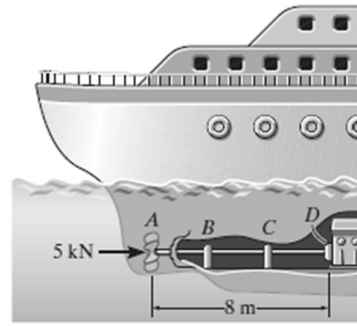

Fig. 6
6. The ship is pushed through the water using an steel propeller shaft that is 8 m long, measured from the propeller to the thrust bearing  $D$  at the engine. If it has an outer diameter of 400 mm and a wall thickness of 50 mm, determine the amount of axial contraction of the shaft when the propeller exerts a force on the shaft of 5 kN. [Fig. 6]